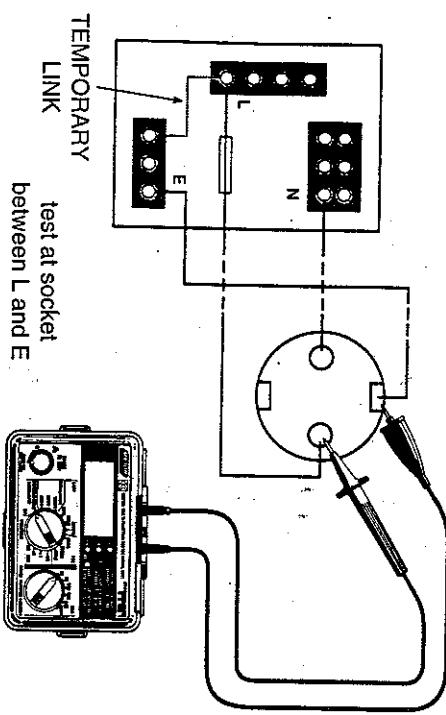

Fig 3
5. Connect the test leads to the circuit whose resistance is required (see Fig 3 for a typical connection arrangement). Having first made sure that the circuit is **not live**. Note that the live circuit warning lamp will illuminate if the circuit is live - but check first anyway!